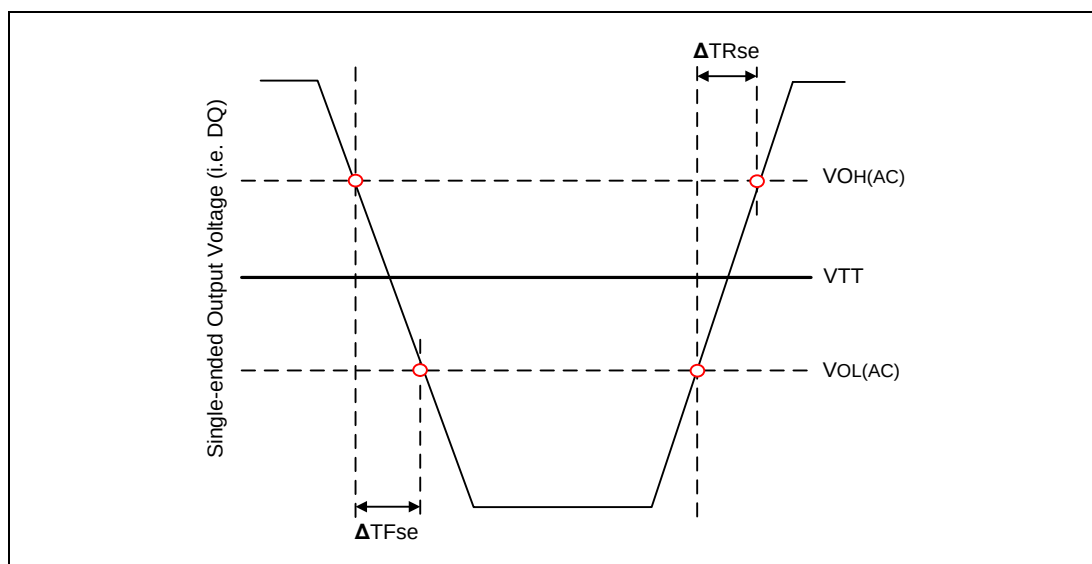

**Figure 94 –Single-ended Output Slew Rate Definition**
With the reference load for timing measurements, output slew rate for falling and rising edges is defined and measured between VOL(AC) and VOH(AC) for single ended signals as shown in Table 27 and Figure 94.